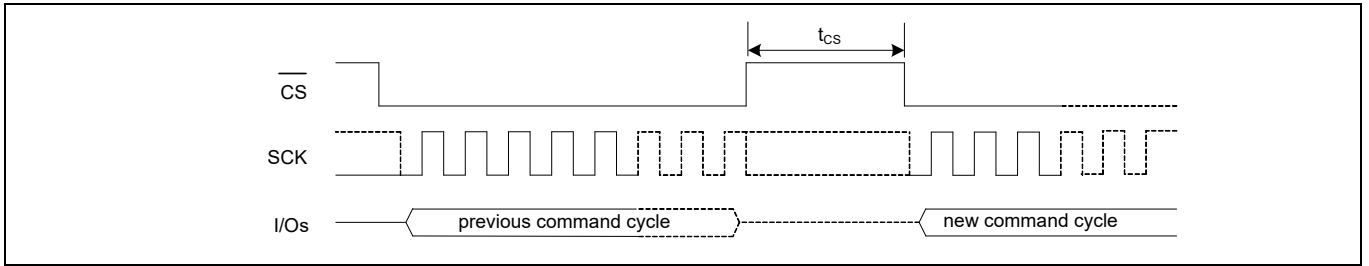

Figure 116 Chip deselect ($\overline{\text{CS}}$ HIGH) - t_{CS} timing
20. t_{CS} is the minimum chip deselect ($\overline{\text{CS}}$ HIGH) time before the new command cycle starts in a specific SPI mode (SPI, DPI, or QPI). This parameter ensures that previous operation is successfully completed before the host starts a new command cycle. Refer to **Figure 116**.
20. t_{CS} is the minimum chip deselect (\overline{CS} HIGH) time before the new command cycle starts in a specific SPI mode (SPI, DPI, or QPI). This parameter ensures that previous operation is successfully completed before the host starts a new command cycle. Refer to Figure 116.
25. t_{CS} is the minimum chip deselect (CS HIGH) time before the new command cycle starts in a specific SPI mode (SPI or QPI). This parameter ensures that previous operation is successfully completed before the host starts a new command cycle. Refer to **Figure 116**.
- 25. t_{CS} is the minimum chip deselect (CS HIGH) time before the new command cycle starts in a specific SPI mode (SPI or QPI). This parameter ensures that previous operation is successfully completed before the host starts a new command cycle. Refer to **Figure 116**.